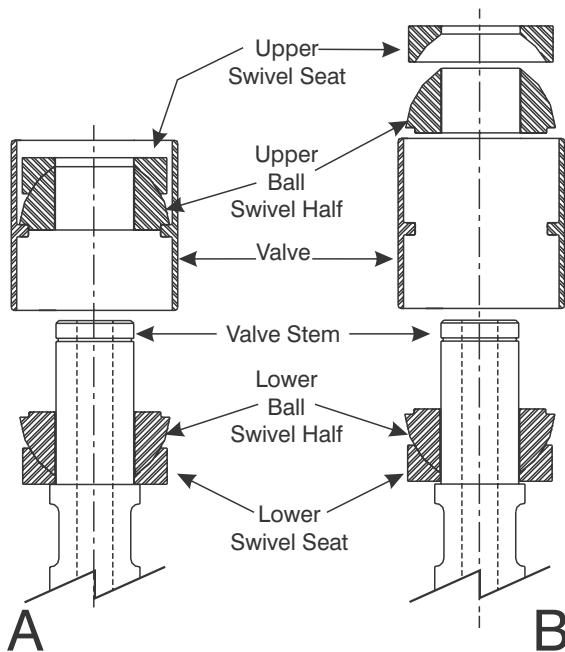

Figure 8-17. Remove Valve and Upper Swivel Parts.
By hand, pull the assembled Valve (7), upper Ball Swivel (6) and upper Swivel Seat (5) from the Valve Stem (8) as shown in Figure 8-17-A.
9. By hand, pull the upper Swivel Seat (5) and Ball Swivel (6) from the Valve as
shown in Figure 8-17-B.